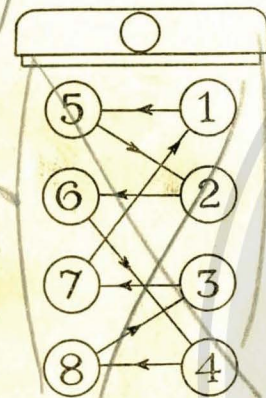

Fig. 5—Firing Order
b. Assemble the camshaft housing to the cylinder block as outlined in Paragraph A-1 above, substituting the figure 5 for the figure 1, wherever the latter appears.
D. Timing the camshaft (L H). Proceed as outlined for the right-hand camshaft, substituting the figure 5 for figure 1 in every case.
NOTE—The above directions apply to all engines with the firing order shown in Fig. 5.
The numbering of the cylinders is as shown in the cut, Fig. 5.